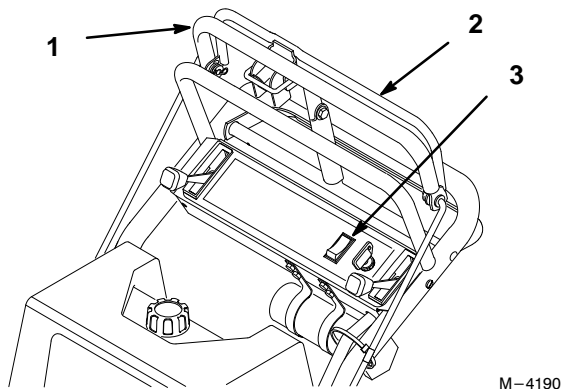

Figure 19
1. Pull on the upper control bar to stop the machine (Fig. 19).
1. Releasing blade control bail to disengage blades (PTO) (Fig. 19).
2. Or push the blade control switch (PTO) to the “OFF” position (Fig. 19).